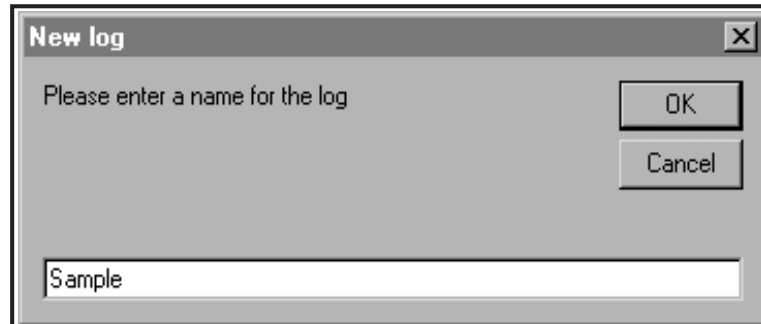

Figure 17: Log Name Dialog Box
- Enter a log *file name* (“Sample” in this case) in the dialog box shown in *Figure 17* below. Click on the [OK] option button.